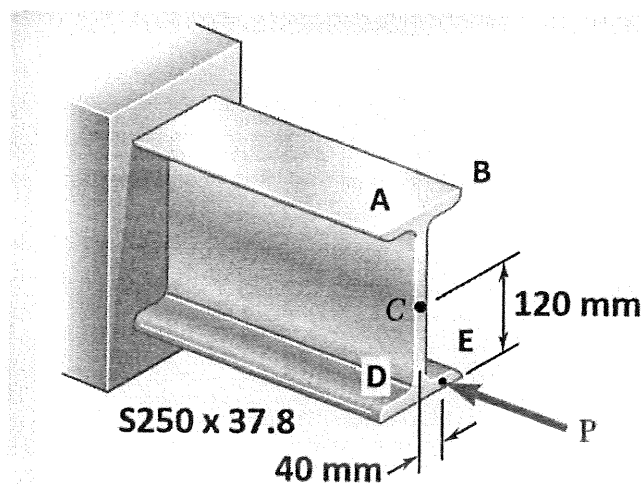

Figure 7
- b) Horizontal load P is applied to a short section of an S250 X 37.8 rolled-steel member as shown in Figure 7. Knowing that the compressive stress not to exceed 83 MPa.